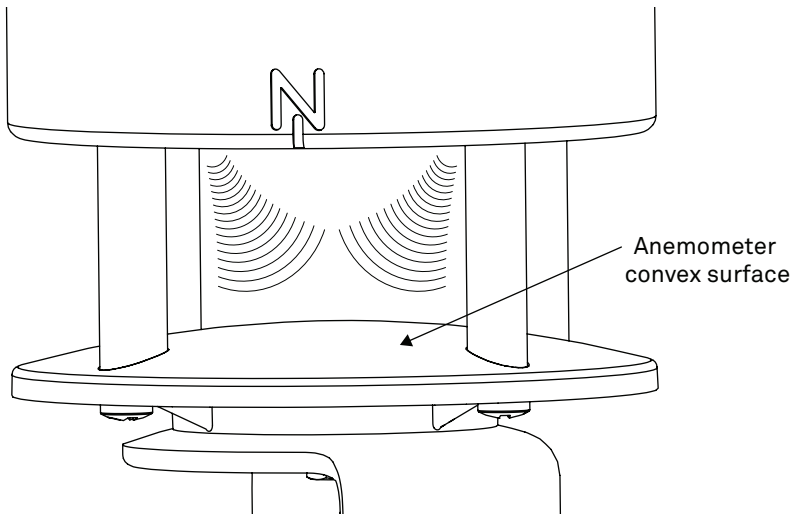

Figure 38 Convex base plate
- d. Convex base plate (Figure 38)